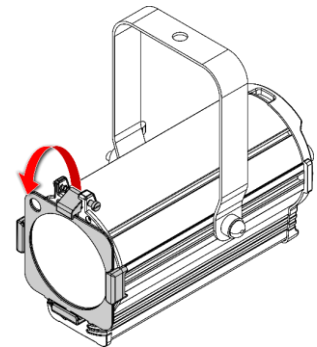

Fig. 14
- 04) Pull the **color frame clip (02)** downwards to release the **spring-loaded screw (01)** (see Fig. 14). The color frame will be locked in position.